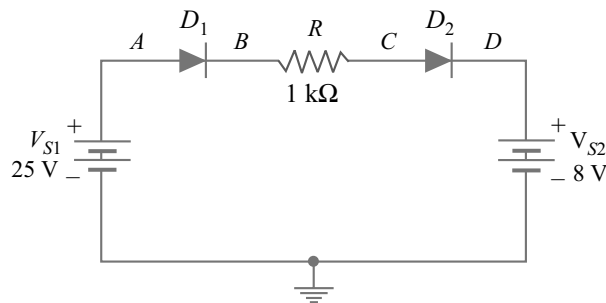

Fig. 4.82
2. Determine the voltage with respect to ground at each point in Fig. 4.82. Assume the diodes are of silicon. [ $V_A = 25\text{ V}$ ;  $V_B = 24.3\text{ V}$ ;  $V_C = 8.7\text{ V}$ ;  $V_D = 8\text{ V}$ ]